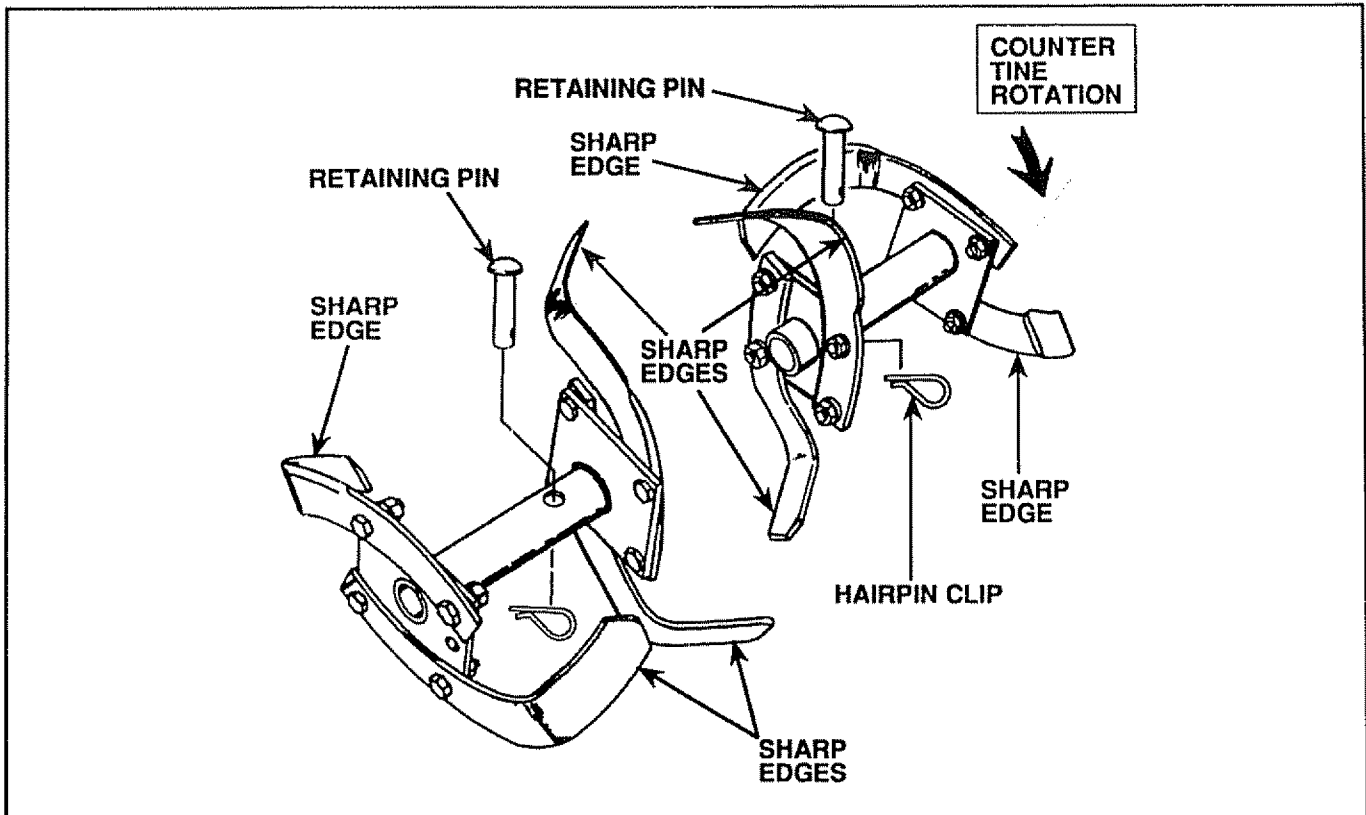

FIGURE 32
- New Tines should be assembled as shown below (Fig. 32). Sharpened Tine edges will rotate rearward from above.